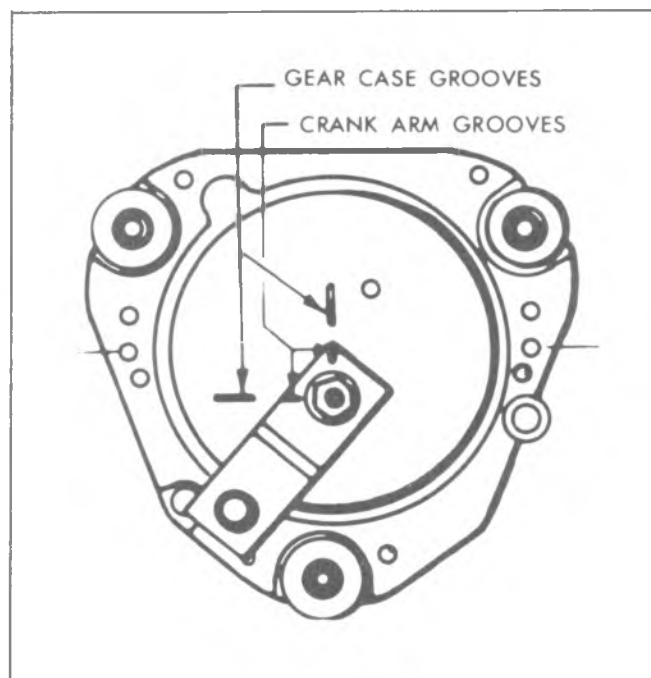

Fig. 8-45--Wiper Motor Crank Arm in Park Position
2. Place wiper in park position and install crank arm on output shaft, rotate crank so alignment marks line up with those on cover (fig. 8-45).